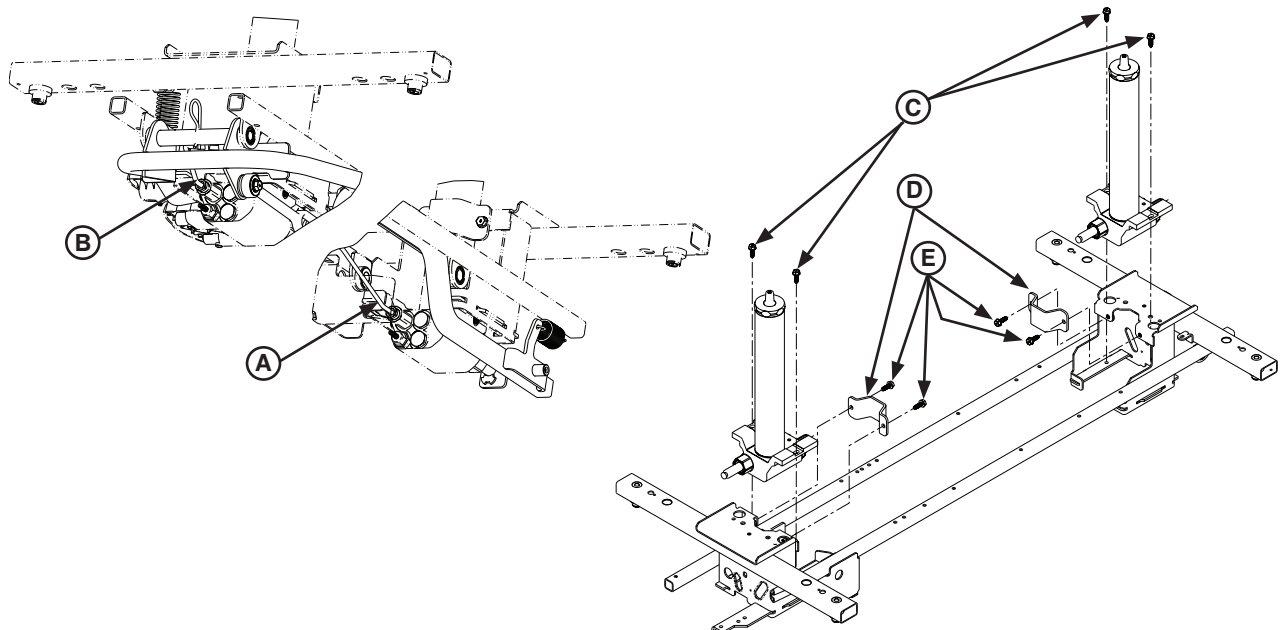

Figure 10
7. Remove the foot end release rod (A) from the release valve assembly (see Figure 10 on page 23).
8. Remove the jack pump piston (G) from the pump connecting tube weldment.
9. Using a 1/2" socket and 3/8" drive ratchet, remove the two screws that hold the reservoir clamp to the base frame (see Figure 10 on page 23).
10. Using a 1/2" socket and 3/8" drive ratchet, remove the two screws that hold the jack base to the base frame (see Figure 10 on page 23).